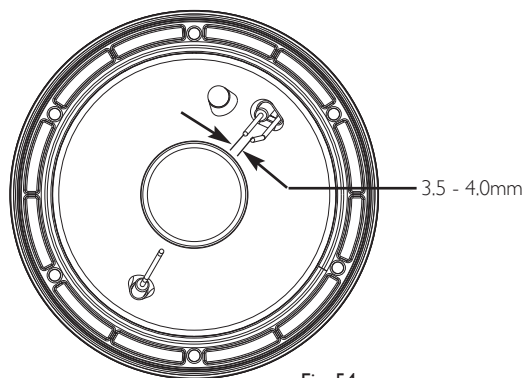

Fig. 54
4. Examine and clean or replace the electrodes as necessary. The spark gap should be 3.5 - 4.0 mm, adjust the earth pin if required (Fig. 54).
7. Inspect the burner, insulation and the electrodes, clean or replace if necessary. Reset the electrode spark gap to between 3.5 – 4.0 mm by adjusting the earth pin if required (Fig. 54).